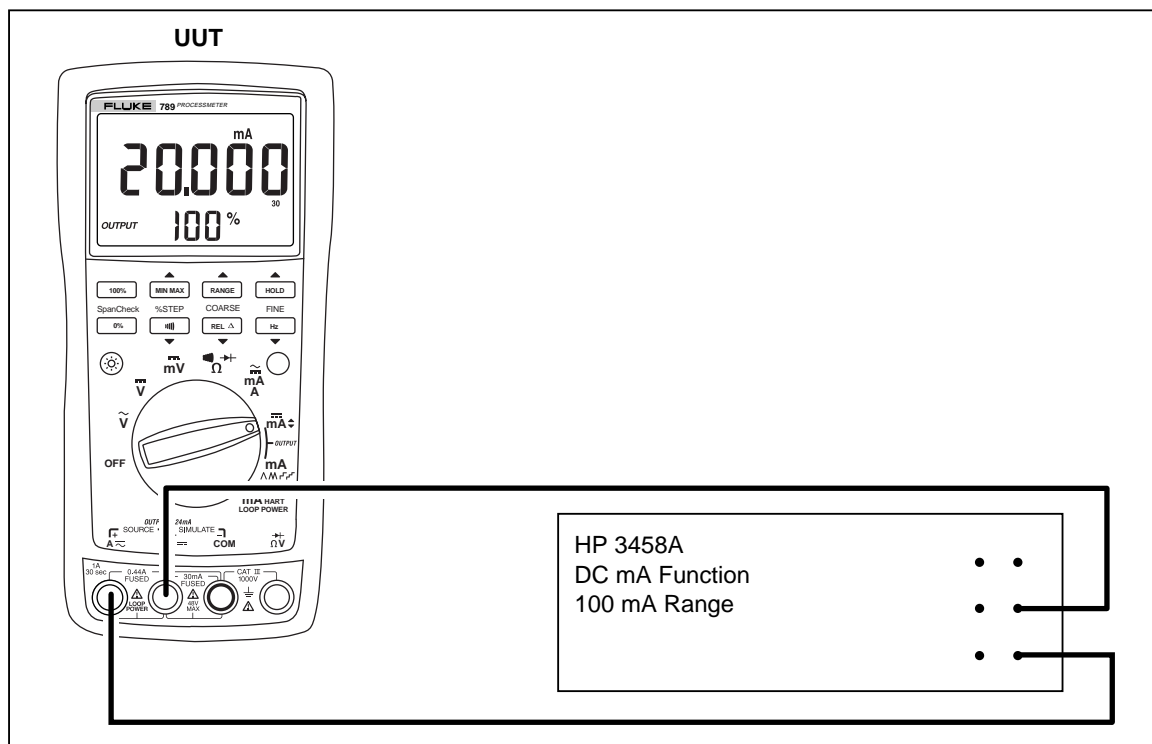

Figure 3. Current Sourcing Connections Using the HP 3458A
2. Connect the **SOURCE + (A $\sim$ )** and **- (mA $\overline{\sim}$ )** terminals on the UUT to the current terminals on the multimeter as shown in Figure 3.